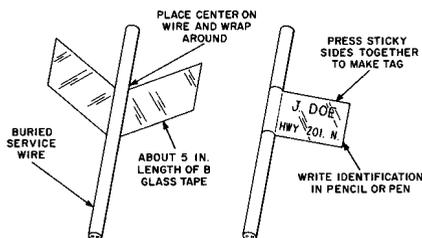

FIGURE 1. Identifying Tags
2.04 Buried service wires can be identified at terminations by means of tabs made from B glass tape. Cut about 5 inches of glass tape and wrap it around the wire, pressing the sticky side against itself to make the tag. It can be readily marked with pencil or pen to show the customer or to identify the route of the buried wire as shown in Figure 1.